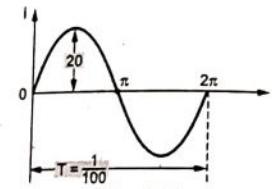

Fig. 2.8.1
**Ex. 2.8.2** For the current wave shown in Fig. 2.8.1.